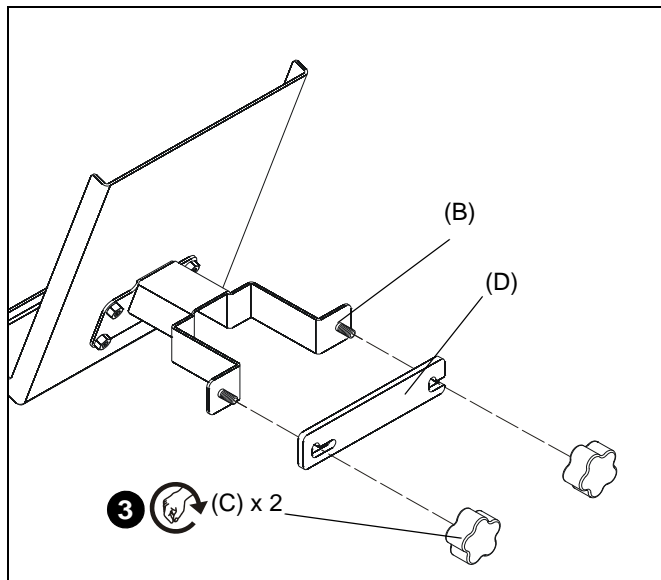

Figure 2
3. Place shelf bracket (D) over bolts on flanges of shelf column mount (B). (See Figure 2)
4. Thread two 5/16-18" knobs (C) onto bolts until shelf bracket is secured to shelf column mount. (See Figure 2)